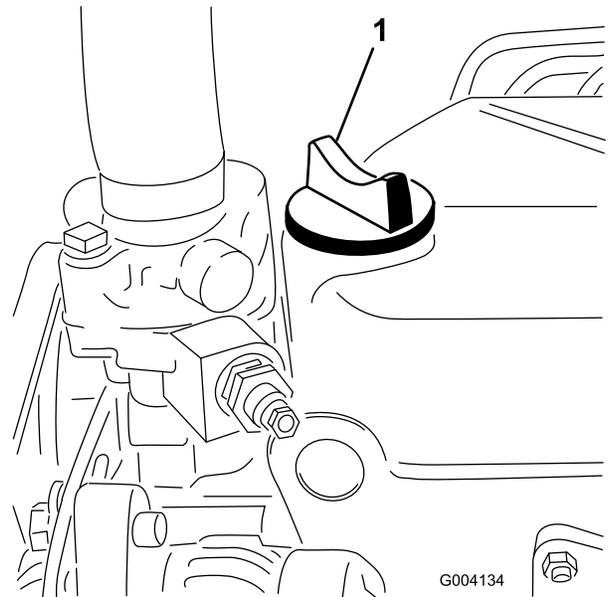

Figure 29
5. If the oil level is below the Full mark, remove the fill cap (Figure 29) and add oil until level reaches the Full mark on dipstick.